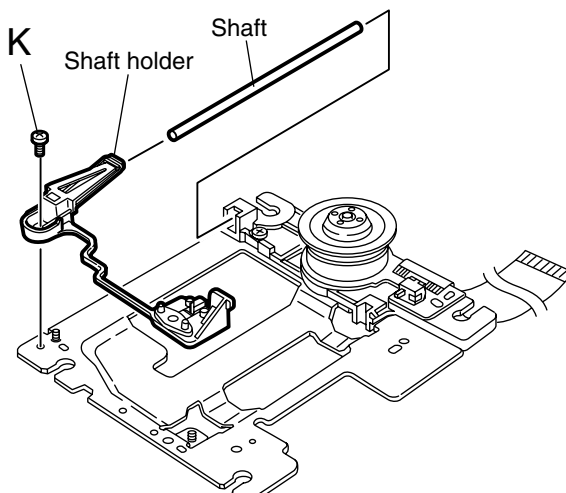

Fig.18
■ **Removing the shaft holder / shaft (See Fig.18)**